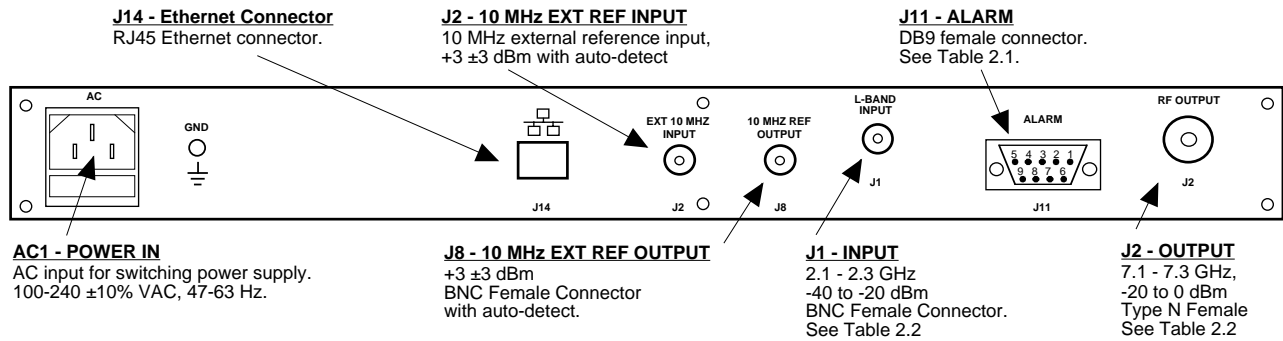

FIGURE 2.1 3115-73 Rear Panel I/O's
Figure 2.1 shows the input and output connectors on the rear panel.
1. Connect a -40 dBm to -20 dBm signal to RF IN, J1 (Figure 2.1).